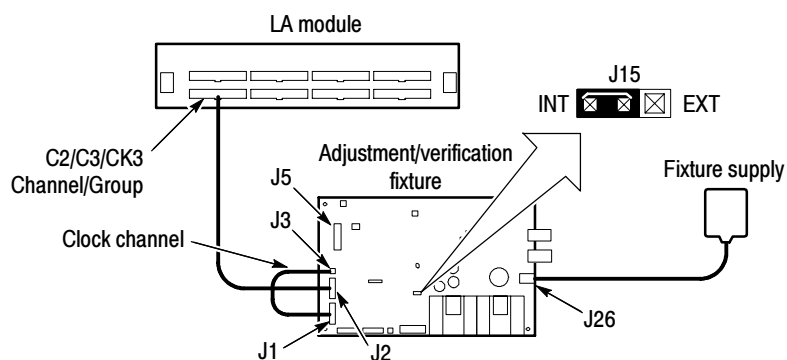

Figure 8: Probe functional verification test setup
Prerequisites	P6417 or P6418 probe connected to LA Module Test equipment connected as shown in Figure 8
6. Refer to Figure 8 and connect the podlets of the acquisition probe to J1 and J2 on the adjustment/verification fixture. Ensure that you connect the ground side of the podlets to the ground side of the adjustment/verification fixture connectors.